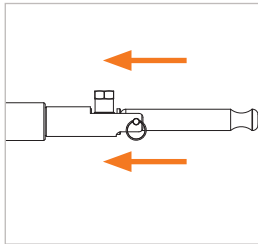

Figure 7
- ▶ Move the connector slightly in the direction of the test piece (Figure 7). The clamping jaws open. The connection to the test piece is released and the connector can be removed by pulling it straight back.